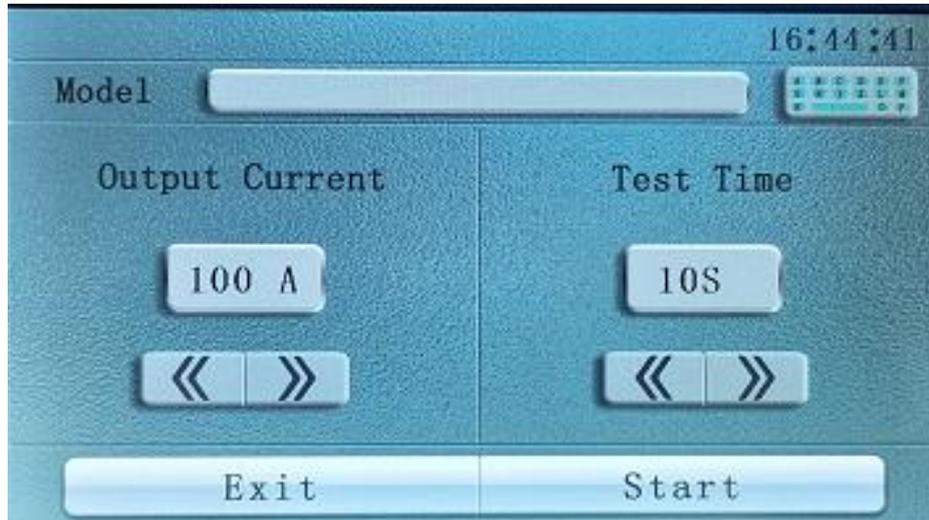

Fig 2
2、 Press “Data test”to enter the interface below, as the fig 2 showing